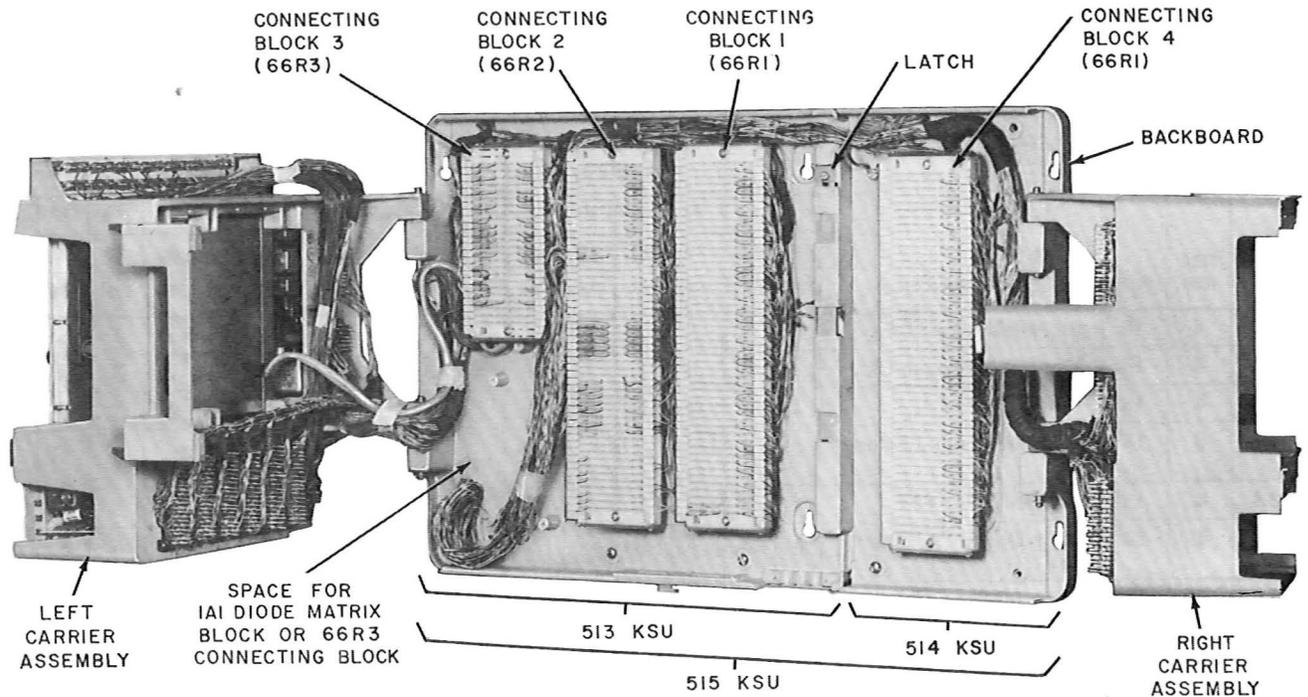

Fig. 2—515-Type Key Service Unit, Carrier Assemblies Open
- (e) Utilizes three 66-type connecting blocks, mounted on a backboard, to facilitate the interconnection of internal and external cables, and optional wiring (Fig. 2).
- (k) Dedicated leads for battery and ground, interrupter, lamp steady, lamp flash, lamp wink, and ringing are wired to the same numbered contacts on each jack (J1-J8). These leads also terminate on connecting block 3 (Fig. 2).
- (l) Nondedicated leads are terminated on connecting blocks 1 and 2 for connections to station and/or distribution cable, and for strapping between units when required (Fig. 2).
(d) Utilizes one 66R1 connecting block, mounted on the backboard, to facilitate the connecting of station and/or distribution cable (Fig. 2).